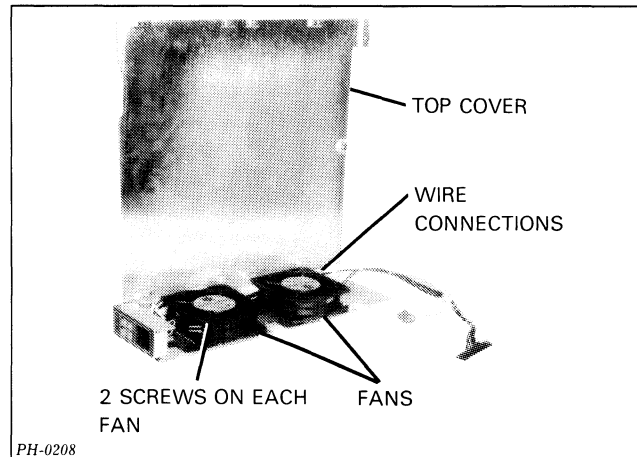

Figure 12.8 Disconnecting the fan (5-slot chassis)
11. Install the new fan so that it will pull air INTO the chassis and then replace the 2 screws. (Note that the fan manufacturer's logo may be on either the inside of the fan module, as shown in Figure 12.8, or the outside.)